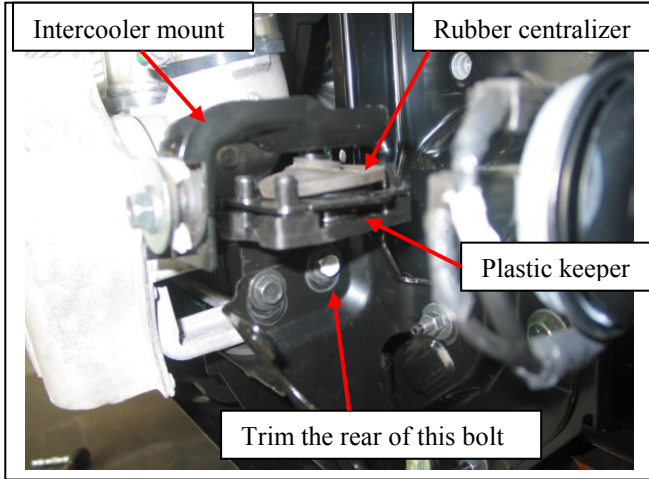

Figure 7 – Completed intercooler mount change.
12. **TURBO DIESEL MODELS:** When refitting intercooler mounting bracket. Remove plastic keeper, rubber centraliser and intercooler mount. Turn upside down and refit to vehicle. Trim bolt on rear of mount flat to nut. (Two 12mm bolts, one 13mm bolt, one 10mm bolt). **See figure 7.**